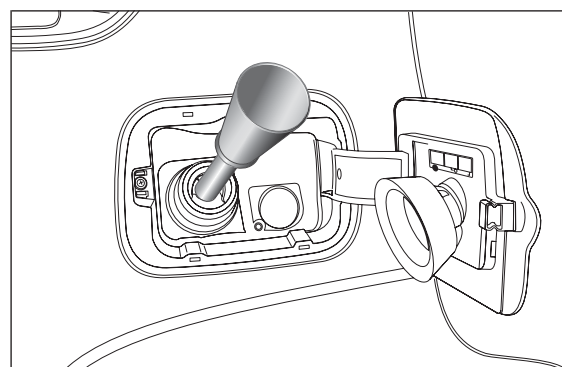

fig. 76
- ☐ insert adapter B in the filler as shown in fig. 76 and refuel;